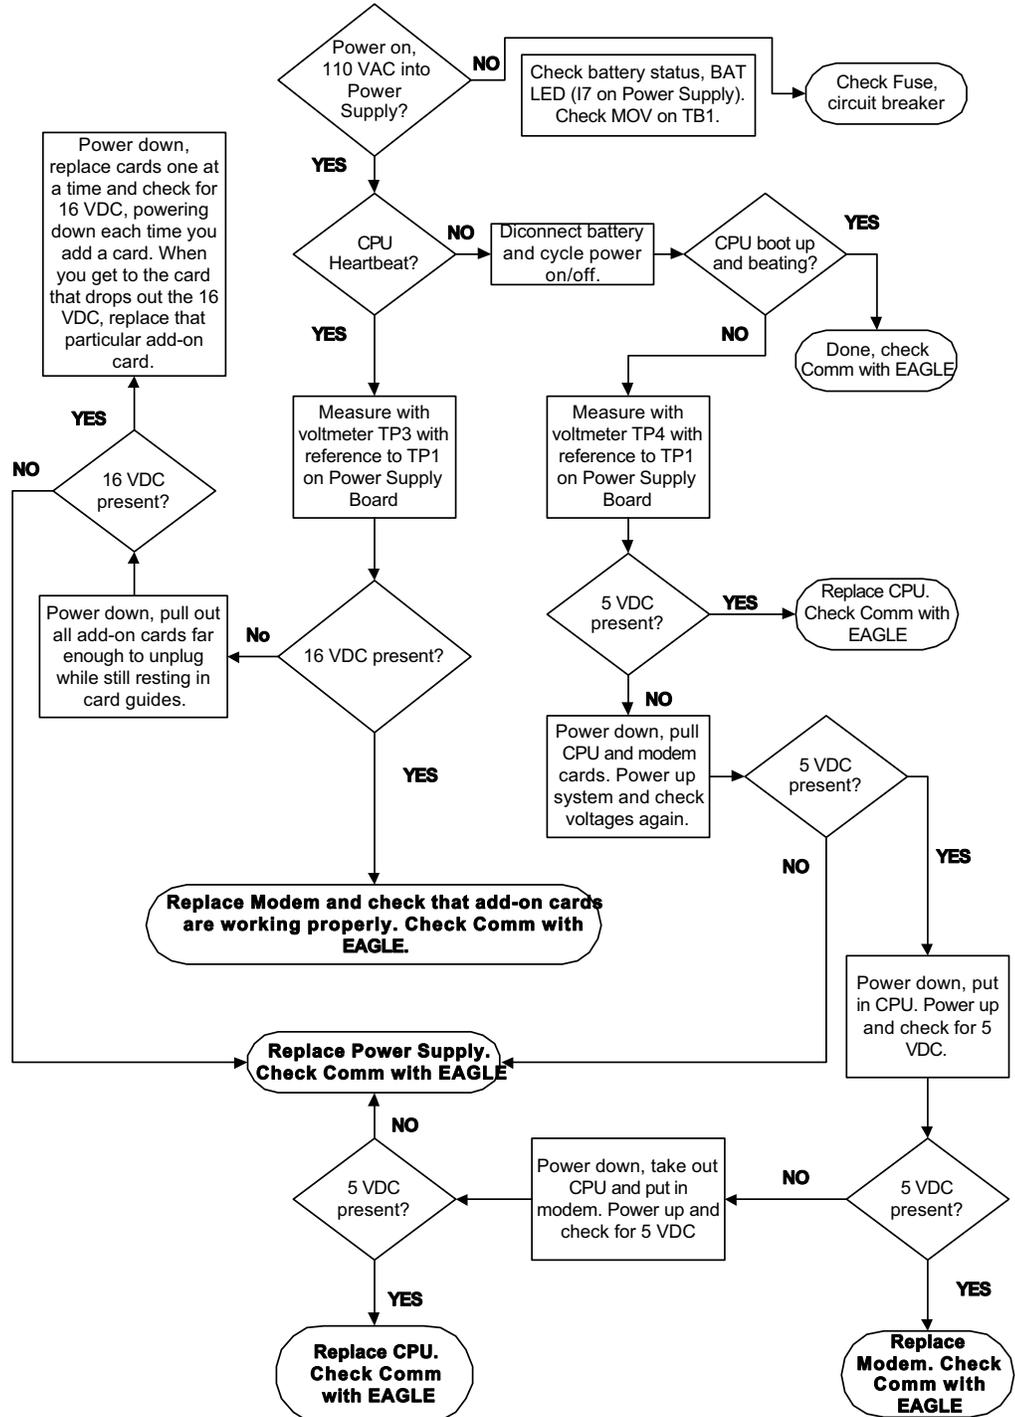

Figure 3-1 FTM 5009 Communication Failure Flow Chart
- The Heartbeat LED (I5) on the 5110 CPU card will blink to indicate that the CPU is running correctly. If the LED is off or steady, then the CPU is not working for some reason (see *Figure 3-1*).
A flowchart is shown in *Figure 3-1* that describes the steps to take if a communication failure is suspected with the unit. This would include: not being able to dial into the unit, the unit does not call out, not getting readings